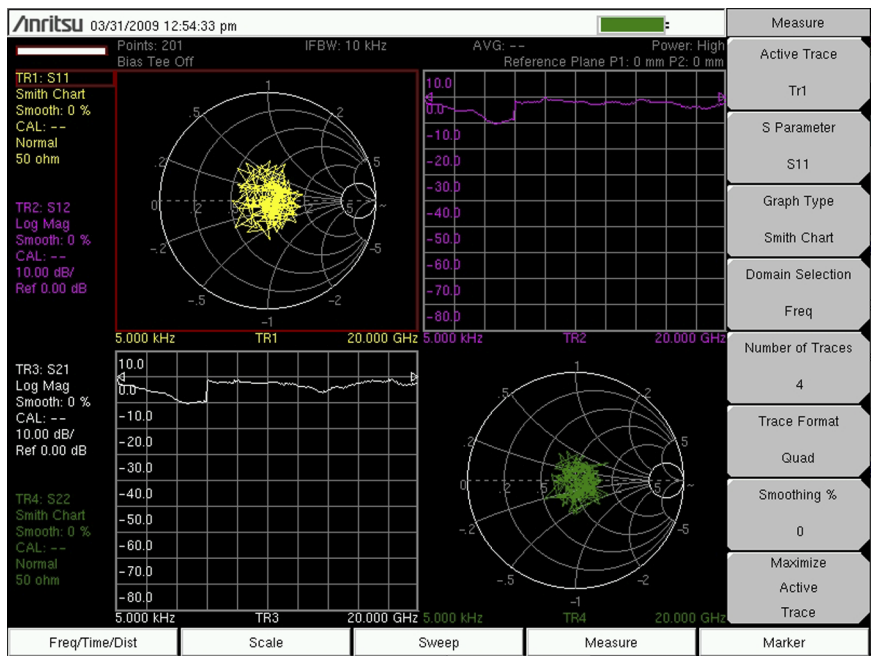
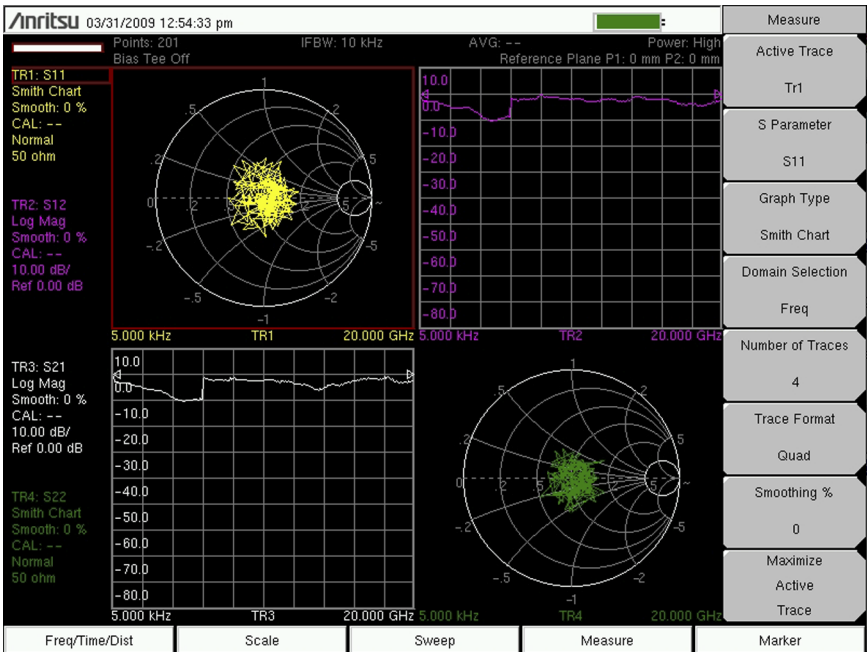

Figure 2-1. Format = Quad, Traces = 4 (MS202xC trace shown)
Figure 2-6. Format = Quad, Traces = 4 (MS202xC trace shown, same as Figure 2-1)
1. In MS20xxC instruments, the default view uses Trace Format = Quad with Number of Traces = 4. Refer to Figure 2-1 on page 2-4.
6. Increment the number of traces from 1 back to 4 and note how the vector network analyzer adds the additional traces to the display. Refer to Figure 2-6 on page 2-6. (Note that Figure 2-1 and Figure 2-6 are the same measurement illustration.)